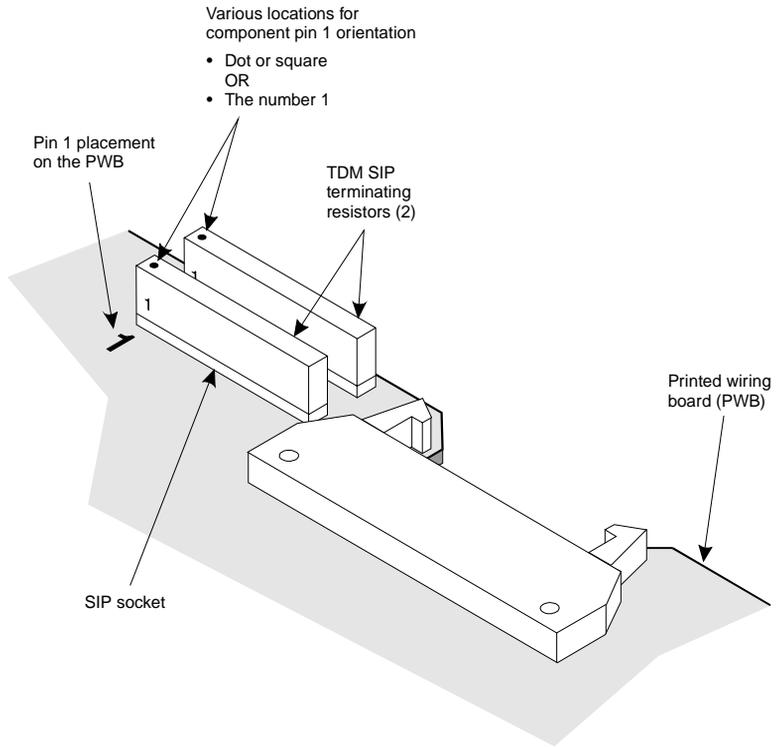

Figure 7-23. Replacing Terminator SIPs on the TDM Bus
1. Align the terminator SIP with the SIP socket on the circuit card (Figure 7-23).